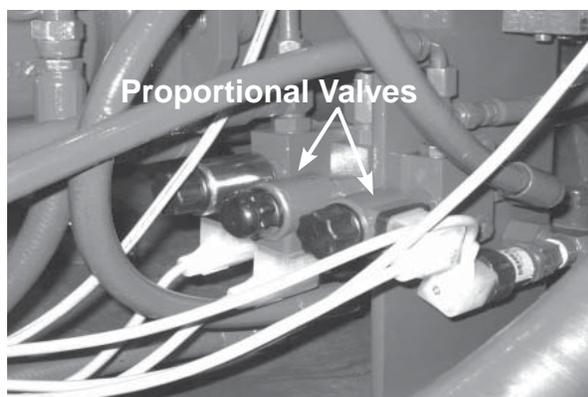

Figure 14 - Proportional Valve
**Proportional Valve** Variable pressure to the restriction rail cylinders is provided by a proportional valve (see Figure 14) driven by an analog valve controller. When the valve controller is energized, the Min-Max pot (located in the panel) provides a control signal which varies the pressure output from the proportional valve. When the pot is set at Min, the pressure in the restriction rail system will be at a minimum 75 psi. When the pot is set at Max, the pressure in the restriction rail system will be at a maximum value 3000 psi. or system pressure.